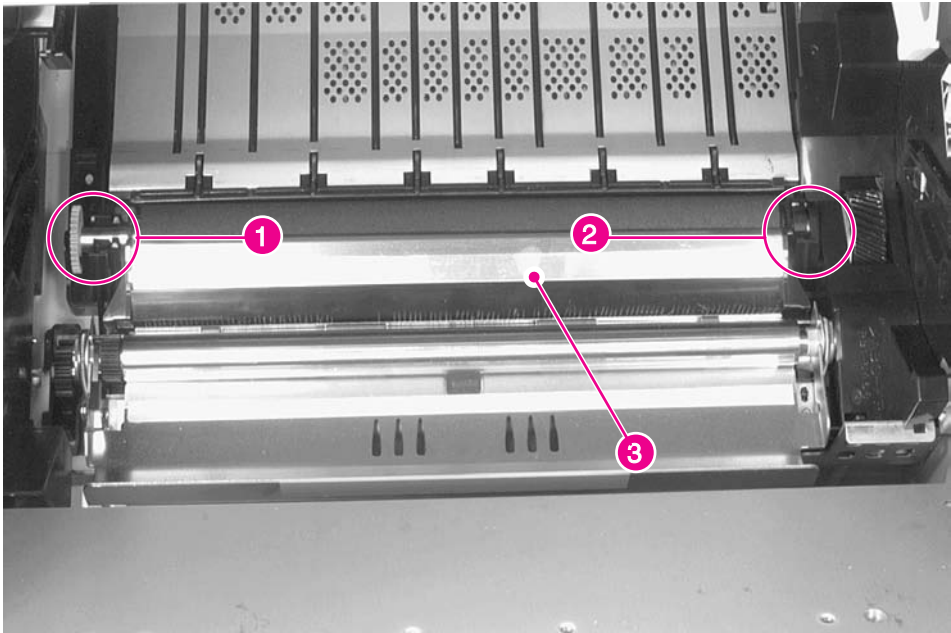

Figure 6-62 **Transfer Roller Assembly**
- 2 Remove the Transfer Roller Assembly (see figure 6-62 on page 232).
- Transfer Roller (see figure 6-62 on page 232)
- 2 Grasp the gear (figure 6-62, callout 1) on the left end, and carefully lift upward just enough to clear the retainer clip.
- 3 Slide the Transfer Roller Assembly to the left to release the shaft on the right end (figure 6-62, callout 2).
- 2** Hold the Transfer Roller wiper up (figure 6-62, callout 3) and slide the assembly to the right until the gear on the left end is in position.
- 4** Press the Transfer Roller wiper down (figure 6-62, callout 3) until the retaining clips snap into place.